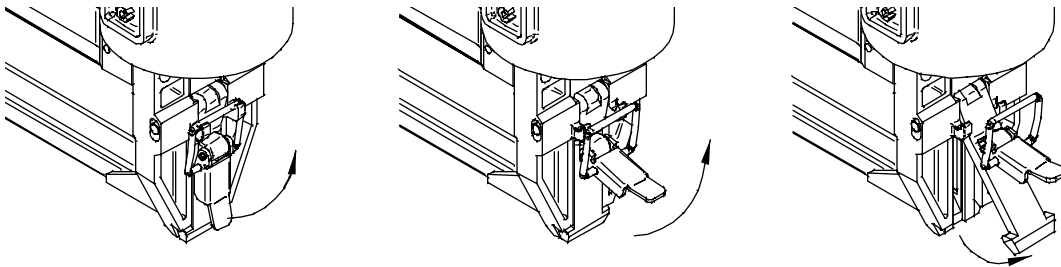

Figure 7
1. In the event of a jam, the Gate (Ref. No. 22 Pg. 17) can be opened by pulling the gate clip upward. (See Figures 7 and 8) (The Shoe does not have to be removed to open and close the Gate.)